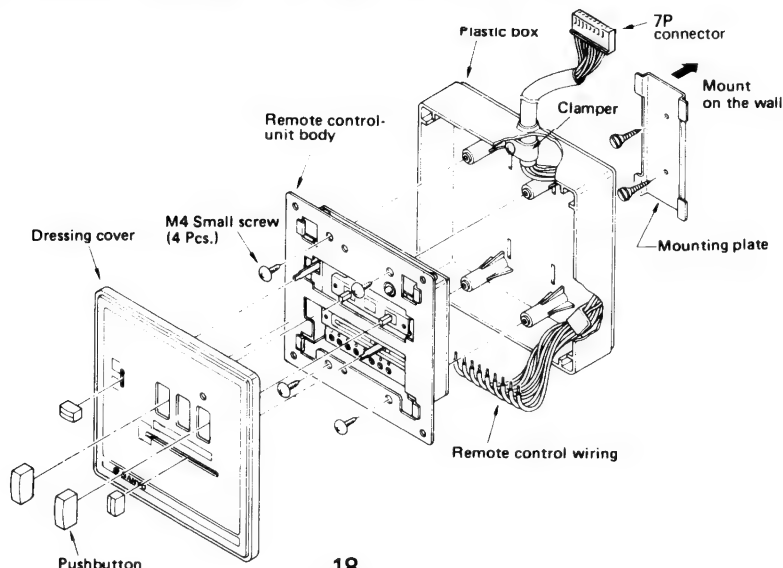
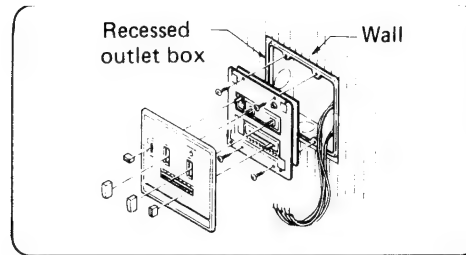

Fig. 17
Fig. 18
### 3-4. Install Remote Control Unit: Fig.17
**NOTE :** In case of use recessed outlet box, install remote control unit body, dressing cover and pushbutton directly to outlet box as same as Fig. 17. Do not use plastic box and mounting plate. Fig. 18